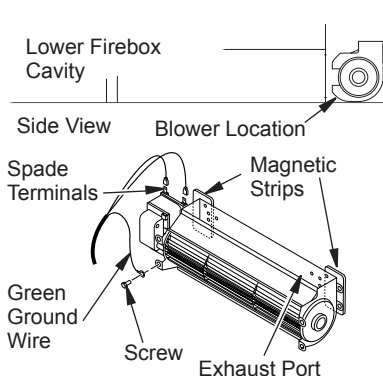

Figure 36 - Blower Model BK
1. Attach power cord to blower motor by firmly pushing two female terminals at end of power cord onto two spade terminals on blower motor (see Figure 36, page 23).
2. Attach green ground wire from power cord to blower housing using screw provided (see Figure 36). Tighten screws securely.
3. Place blower against lower rear wall of firebox outer wrapper with exhaust port directed upward. The blower will fit inside back opening and be held in position against back wall by magnets (see Figure 36).